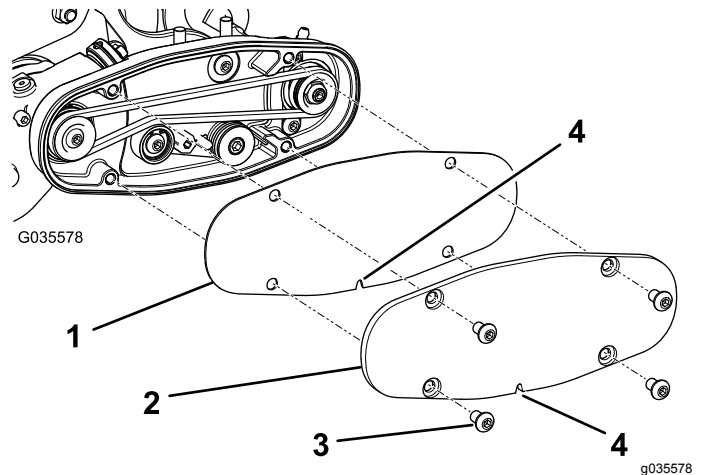

Figure 15
3. Align the belt cover with the mounting holes and secure the cover with 4 bolts (Figure 15).